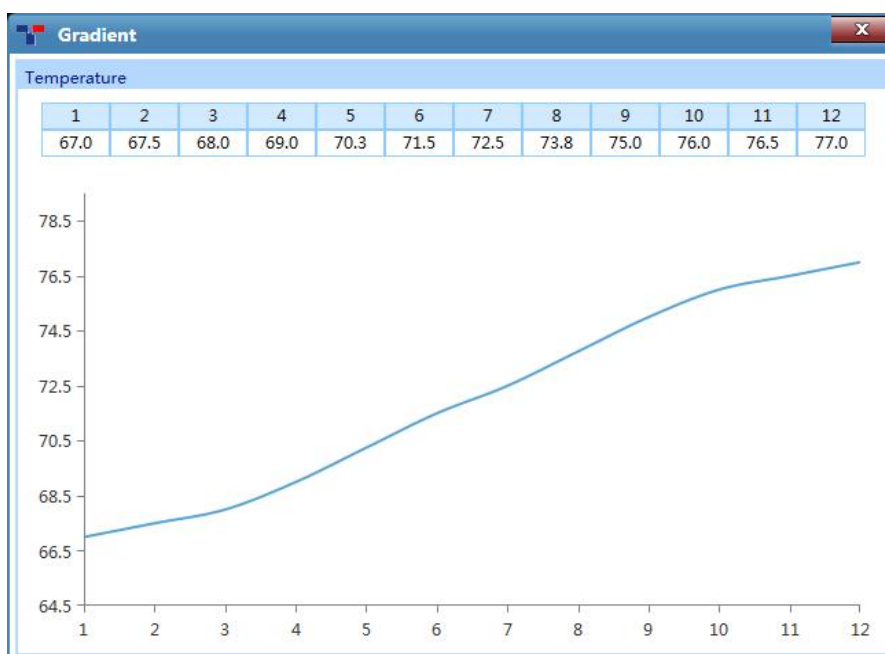

Figure D-5.6e. Step Setting Dialog Box – Gradient Temperature Details
- **Details:** User can click < **Details** > to the specific gradient temperatures of each column and the Gradient distribution, as shown in figure D-5.6e.